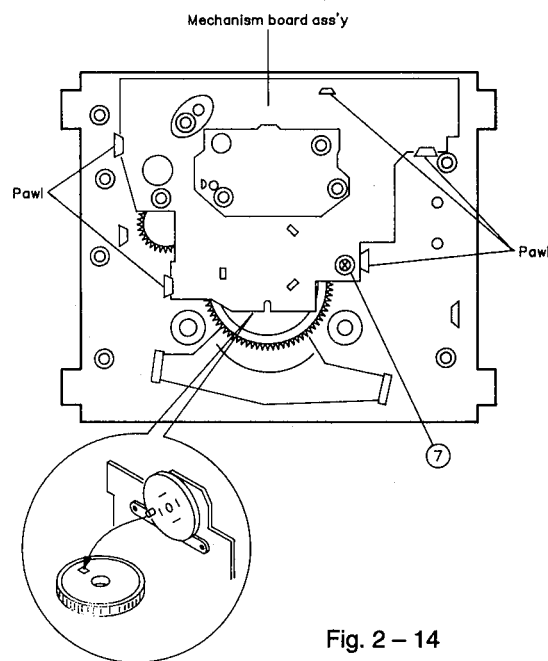

Fig. 2 - 14
◆ **Control cam** (Fig. 2 - 15, 2 - 16)
1. Release the control cam from two pawls. (Fig. 2 - 15)